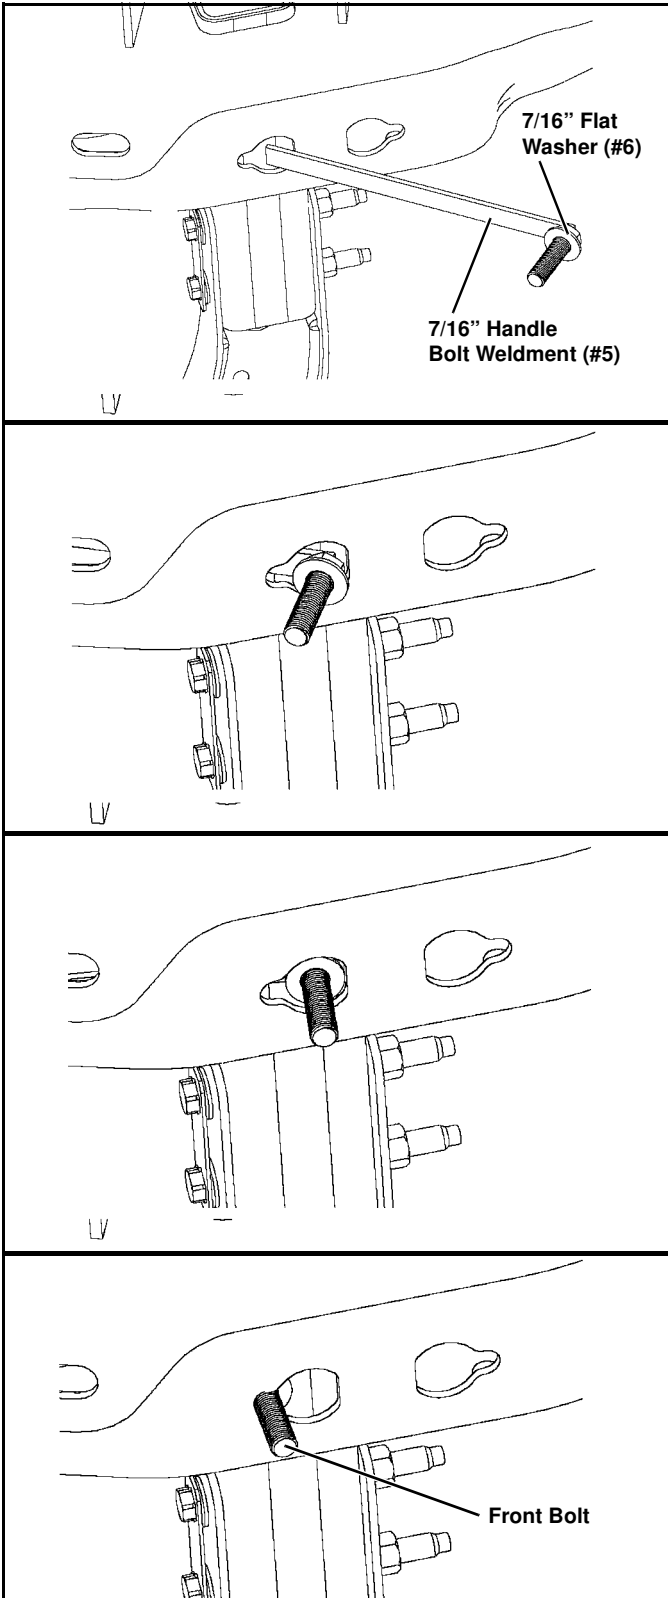

Figure 4
4. Place (1) 7/16" Flat Washer (#6) over the threads of (1) 7/16" Handle Bolt Weldment (#5). Secure the washer against the head of the bolt using a rubber band tightly wound around the bolt up against the washer. This will prevent the washer from falling off the bolt as item #5 is inserted into the truck frame. Repeat this 3 more times.
5. Slide the handle of a 7/16" Handle Bolt Weldment (#5) through the driver side front sway bar mount keyhole, so the handle is pointed to the front of the truck (See Figure 4). Stick the head of the bolt and washer into the keyhole so just the threads stick down from the frame.
6. Slide the handle of a 7/16" Handle Bolt Weldment through the driver side rear sway bar mount keyhole, so the handle is pointed to the front of the truck (See Figure 4). Stick the head of the bolt and washer into the keyhole so just the threads stick down from the frame.